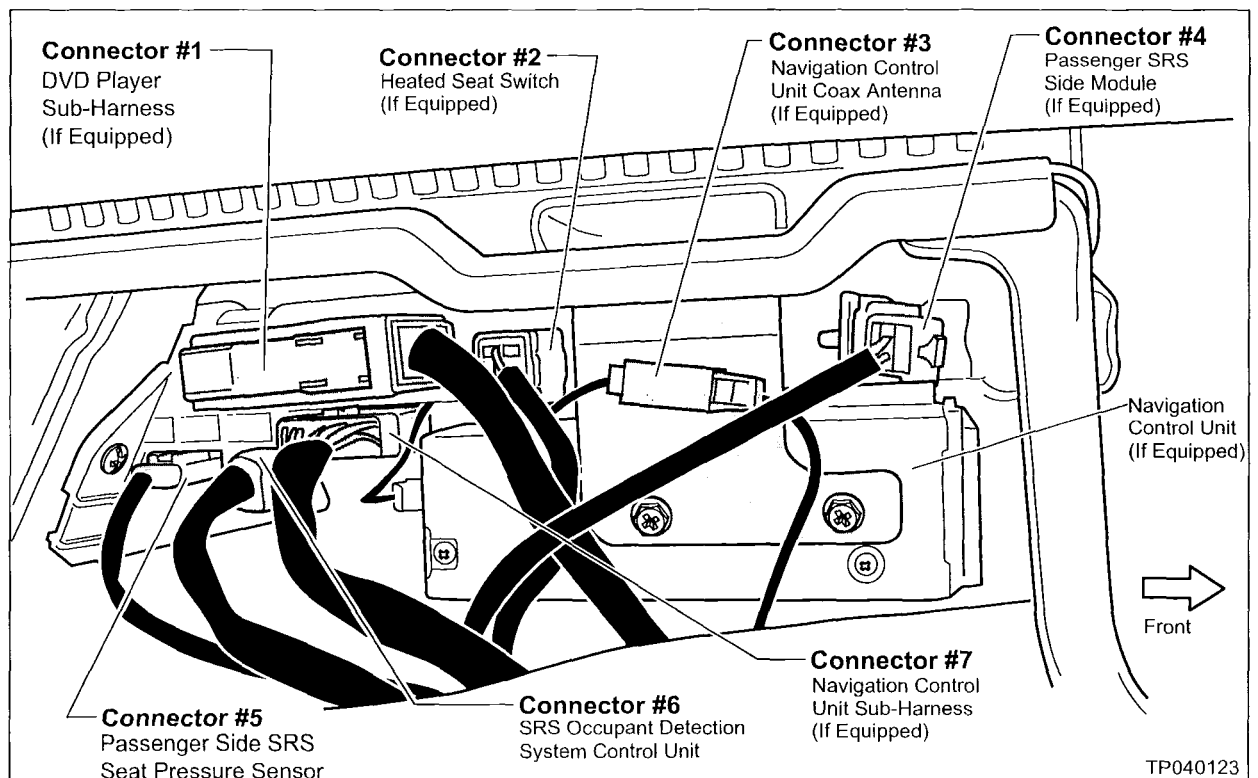

Figure 5
9. Carefully disconnect the harness connectors shown in Figure 5 from the passenger front seat.